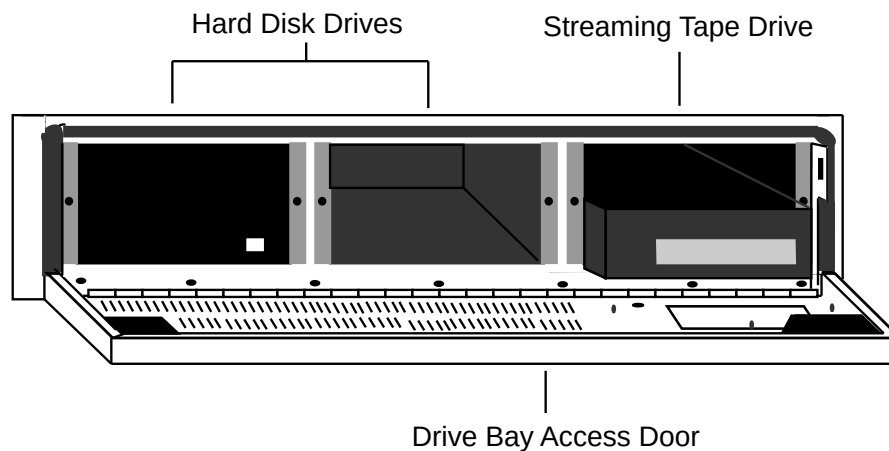

Figure B-8. Peripheral Drive Bay
2. Open the front of the peripheral drive bay access door by using the slide latches located on the left and right corners of the door. Pull the door so that it falls forward (Figure B-8).